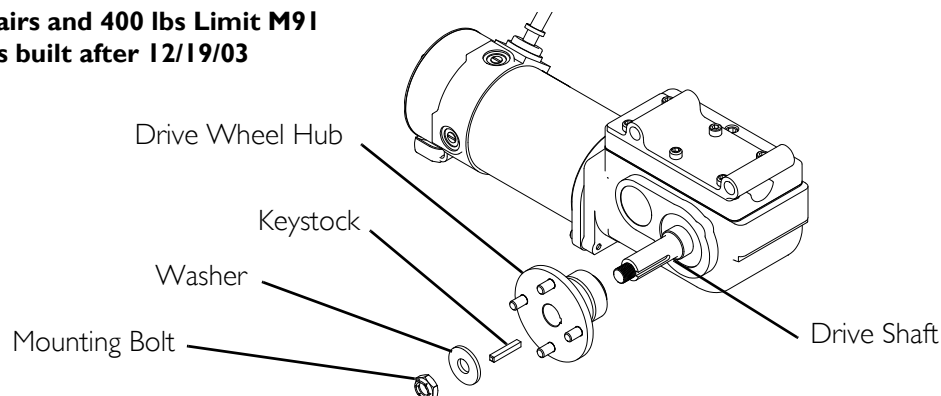

FIGURE 8.6 Removing/Installing the Drive Wheel
NOTE: For this procedure, refer to FIGURE 8.6 on page 88.
- i. Fold down tab of existing locking tab washer (Detail “A” of FIGURE 8.6).
- ii. Remove mounting bolt and locking tab washer (Detail “B” of FIGURE 8.6). Discard existing locking tab washer.
- i. The locking tab of the locking tab washer **MUST** be inserted into the hub cutout (Detail “B” of FIGURE 8.6).
- ii. Using the mounting bolt, washer and new locking tab washer, secure the wheel to the drive shaft (Detail “B” of FIGURE 8.6).
- iii. Fold one tab of the locking tab washer UP so that the tab rests against one side of the mounting bolt (Detail “A” of FIGURE 8.6)